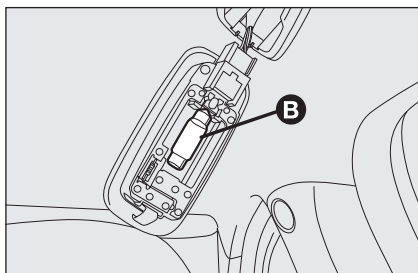

fig. 41
- replace the bulb **B**-fig. 41 releasing it from the side contacts making sure that the new bulb is correctly clamped between the contacts.